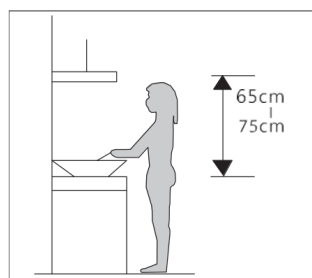

Fig. 4
1. The kitchen hood should be placed at a distance of 65-75 cm above the cooking surface for best effect. Fig. 4
Figure 4 shows the necessary elements to install the kitchen hood, bracket, and hooks.